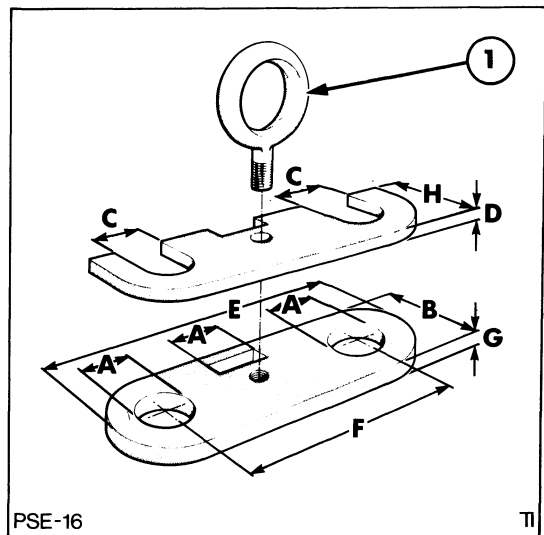

Figure 16
2. In order to remove speed clutches 1/C and 3/B it will be necessary to construct a simple lifting attachment. Refer to Figure 16 for constructional detail.